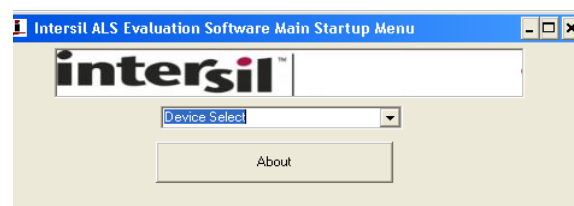

FIGURE 14.
- Once you have double-clicked the program, the window displayed in Figure 14 should open.